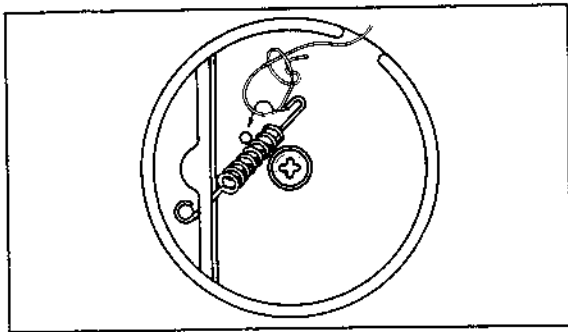

Fig. 2-7. Tying square knot in the tension spring
1. Tie one end of the cord to the tension spring as shown in Fig. 2-7.